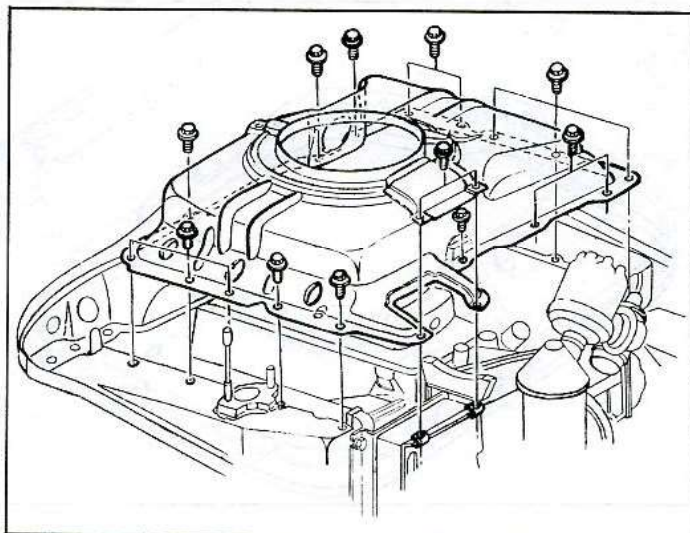

Fig. 23—Upper Shroud
**ENGINE COOLING COMPONENTS****Upper Shroud (Fig. 23)****Removal**